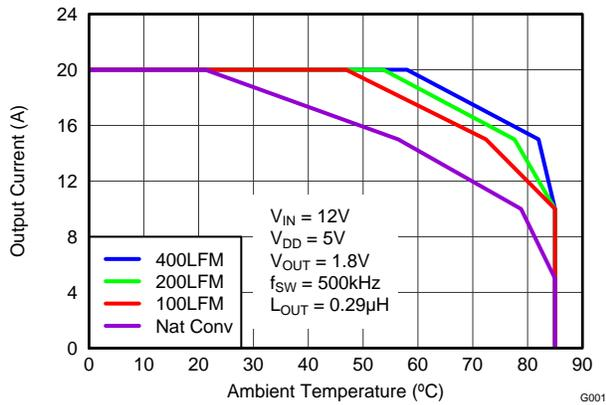
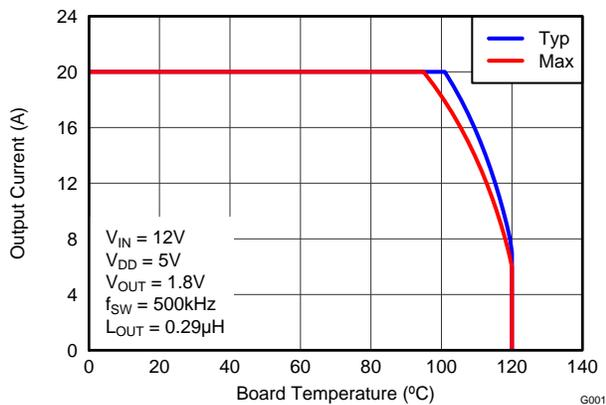

Figure 5. Safe Operating Area – PCB Horizontal Mount ⁽¹⁾
Figure 7. Typical Safe Operating Area ⁽¹⁾
The SOA curves in the CSD97376Q4M datasheet give engineers guidance on the temperature boundaries within an operating system by incorporating the thermal resistance and system power loss. Figure 5 and Figure 7 outline the temperature and airflow conditions required for a given load current. The area under the curve dictates the safe operating area. All the curves are based on measurements made on a PCB design with dimensions of 4.0" (W) x 3.5" (L) x 0.062" (T) and 6 copper layers of 1 oz. copper thickness.